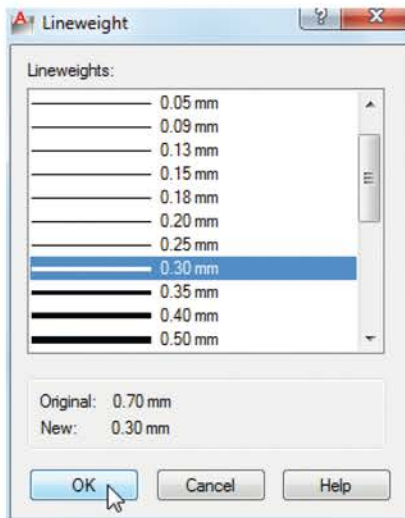

Fig. 5.18 The Lineweight dialog
7. Click on the any of the lineweights in the **Layer Properties Manager**. This brings up the **Lineweight** dialog (Fig. 5.18). Select the lineweight **0.7** for Layer **0**. Set at **0.3** for all other the layers, except **Text**. Then *click* the **Close** button of the **Layer Properties Manager**.